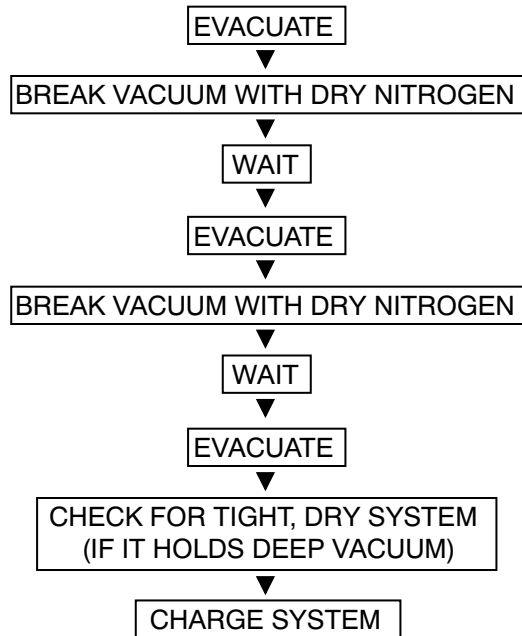

Fig. 36 – Triple Evacuation Method
The triple evacuation method should be used when vacuum pump is only capable of pumping down to 28 in. of mercury vacuum and system does not contain any liquid water. Refer to Fig. 36 and proceed as follows:
5. Repeat this procedure as indicated in Fig. 36. System will then be free of any contaminants and water vapor.